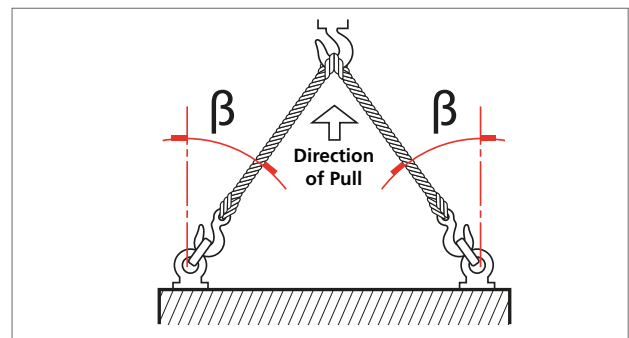

Fig 7.2 Lifting angle
- Angle β must be between 0° and 45° as shown in Fig 7.2